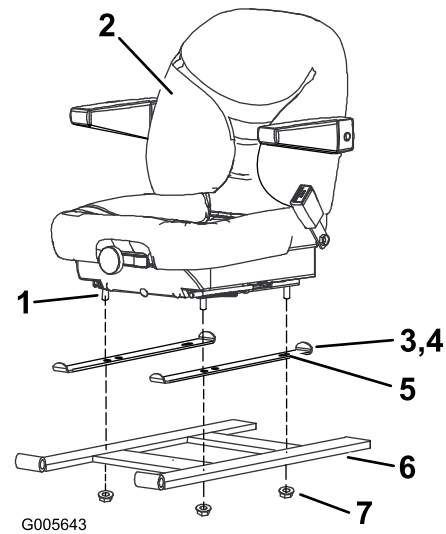

Figure 5
2. Install the seat belt retractor and receiver to the deluxe seat using the 2 bolts (7/16 x 1 inch) (Figure 5 & Figure 3).
3. Position the new seat with the seat track studs in the spacers and seat mounting frame (Figure 5).
4. Secure the seat to the seat tracks with the nuts removed previously (Figure 5).